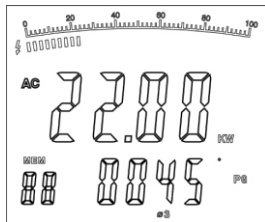

Figure 11
3. After recording the current power measurement value of the second phase, then press **SEL** again to choose  $\text{③}$ . The double display shows the value of active power KW and PG of the third phase, as in figure 11.